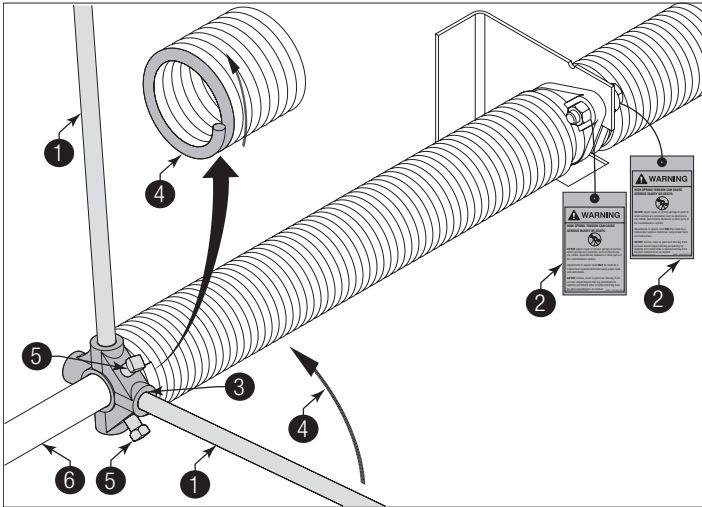

Figure 47
**PRIOR TO WINDING THE SPRING, ENSURE YOU'RE WINDING IN THE PROPER DIRECTION AS SHOWN IN FIGURE 47. OTHERWISE THE SPRING FITTING MAY RELEASE FROM SPRING AND RESULT IN SEVERE OR FATAL INJURY.**